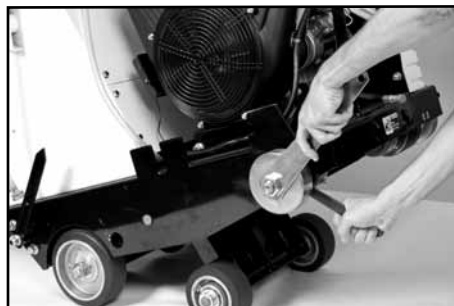

Fig. 8 Remove Arbor Bolt
2. Remove arbor bolt. If blade is mounted on right side saw, the bolt has left hand threads. To remove turn clockwise. If the blade is mounted on left side of saw, nut has right hand threads. To remove, turn counter-clockwise (Figure 8).